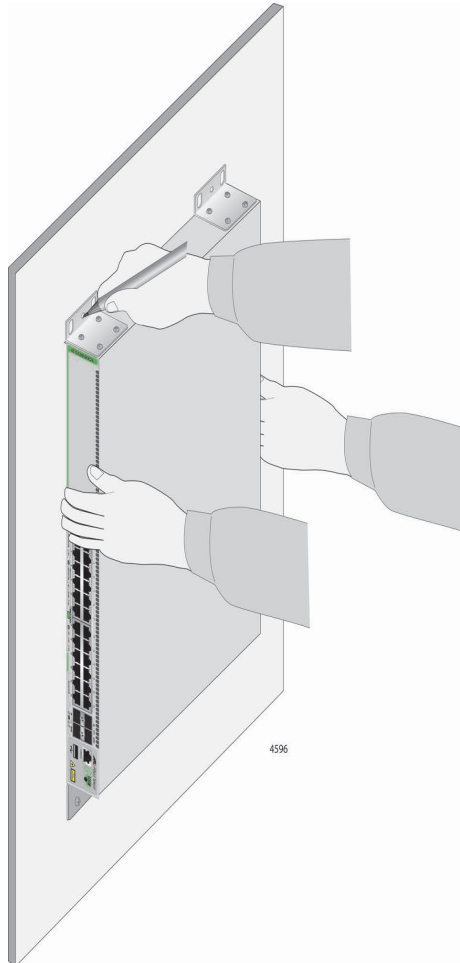

Figure 50. Marking the Locations of the Bracket Holes on a Concrete Wall
3. After attaching the brackets, have another person hold the switch on the concrete wall at the selected location for the device while you use a pencil or pen to mark the wall with the locations of the four screw holes in the four brackets (one screw per bracket). Refer to Figure 50 on page 103.